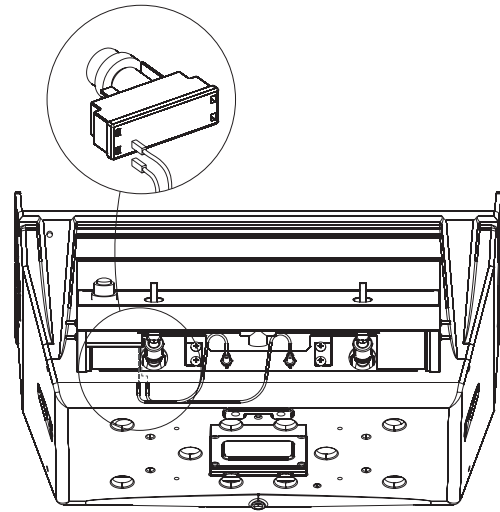

Figure 29
- Remove ignitor from the control panel by unscrewing the ignitor button and nut. Attach ignitor wires to terminals on the ignitor. **See Figure 29.**